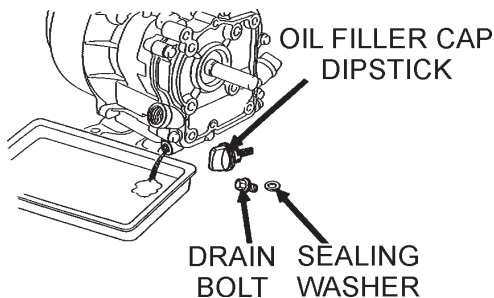

Figure 20. Engine Oil (Draining)
- Drain the engine oil when the oil is **warm** as shown in Figure 20.
- Tap the paper filter element (Figure 20) several times on a hard surface to remove dirt, or blow compressed air [not exceeding 30 psi (207 kPa, 2.1 kgf/cm²)] through the filter element from the air cleaner case side. **NEVER** brush off dirt. Brushing will force dirt into the fibers. Replace the paper filter element if it is excessively dirty.